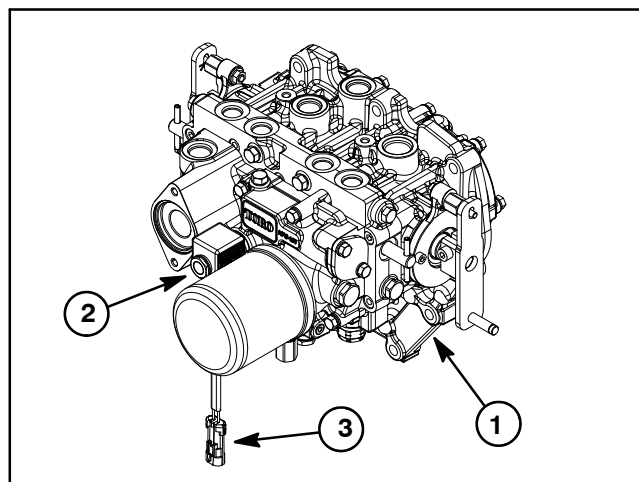

Figure 40
2. To prevent unintentional engagement of the PTO clutch, disconnect the wire harness electrical connector from the PTO solenoid valve coil connector (Fig. 40).
- Loosen two (2) cap screws and lock nuts.
6. Connect the wire harness electrical connector to the PTO solenoid valve coil connector (Fig. 40).